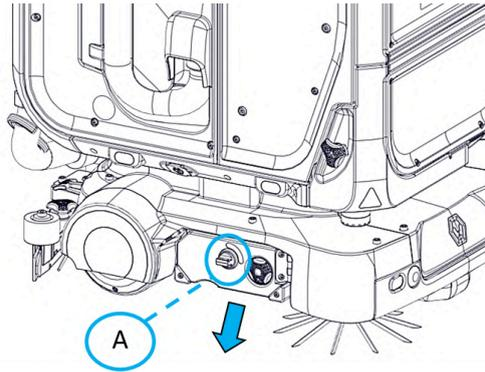

FIGURE 10-9
1. Located on the right side of the machine, twist the knob anti-clockwise to open the brush door (**Fig. 10-9**).